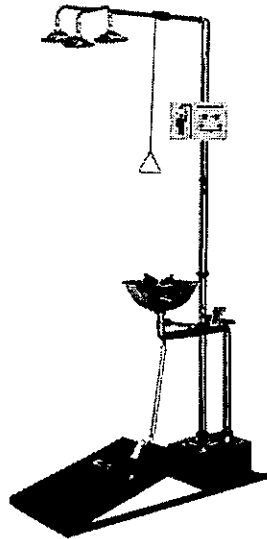

Figure 7: Example of Eyewashes and Showers*
1.15 There must be an installation of Eyewashes and Showers (example in Figure 7)